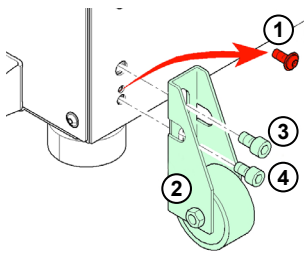

Figure 20: Installing casters, illustration: back of machine, left
Insert bolt, see (Figure 20) item (1).